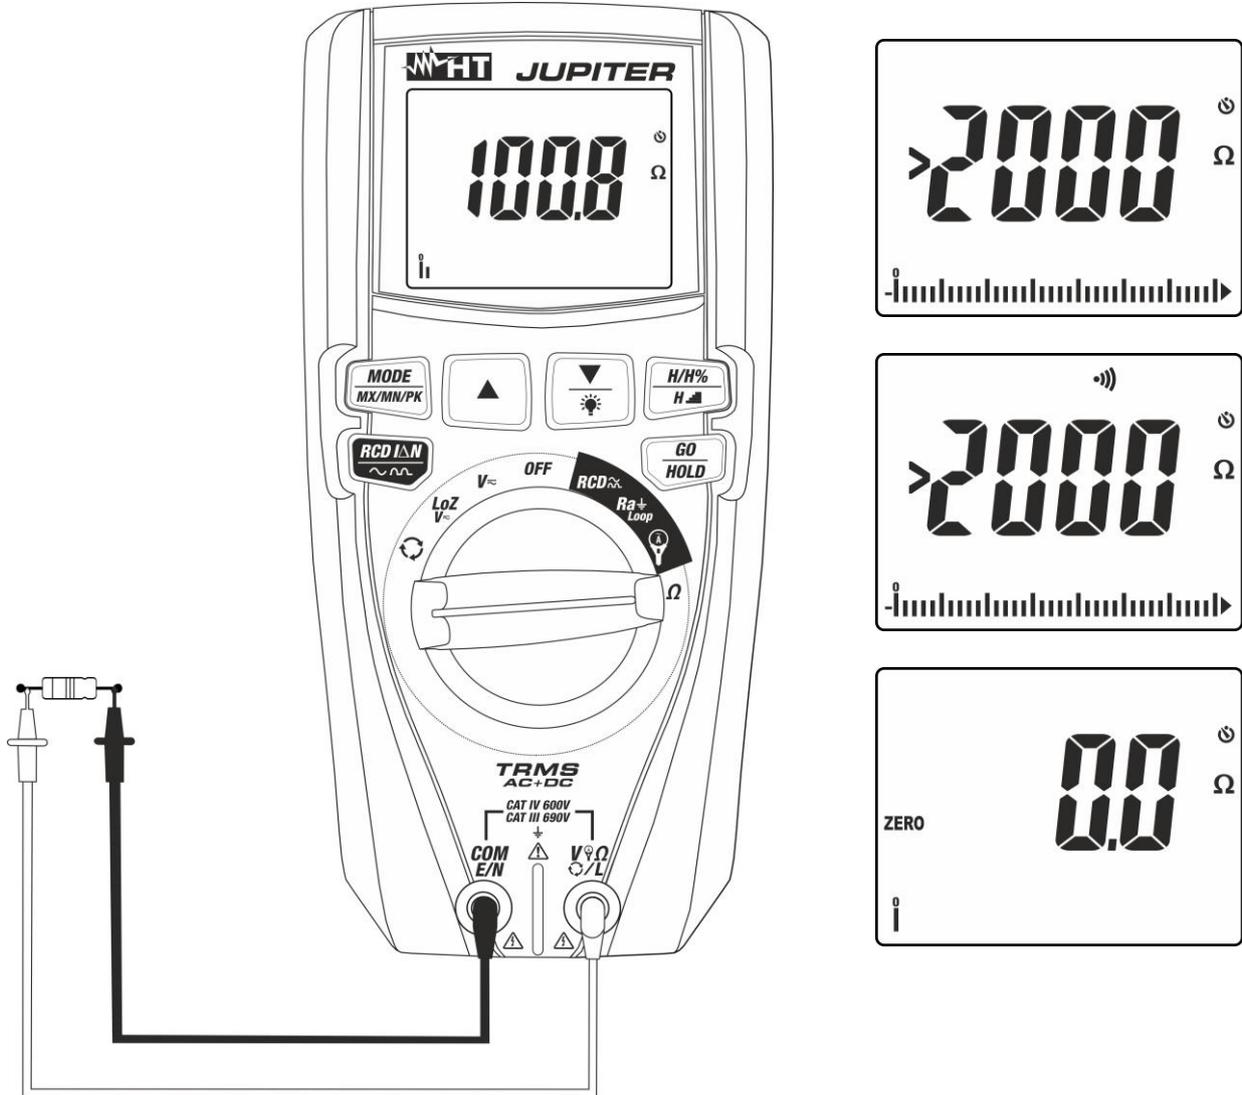

Fig. 11: Use of the instrument for resistance measurement and continuity test
4. Position the test leads in the desired spots of the circuit to be measured (see Fig. 11). The display shows the value of resistance.
5. If the display shows the message ">2000 Ω " (see Fig. 11) the maximum measurable value has been reached.